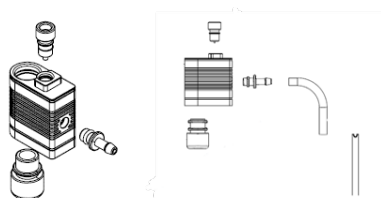

Fig. 5
Assemble the milk system parts (6) (Fig. 5).